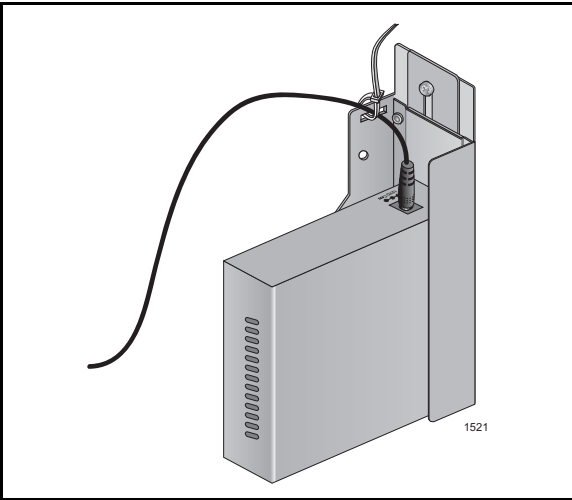

Figure 4 - Securing the DC power cord to the DINRAIL bracket
3. For all of the media converters except the AT-PC232/ POE and the AT-PC2002/POE, install the DC power cord and secure it to the bracket with a tie-wrap, as shown in Figure 4, “Securing the DC power cord to the DINRAIL bracket”.